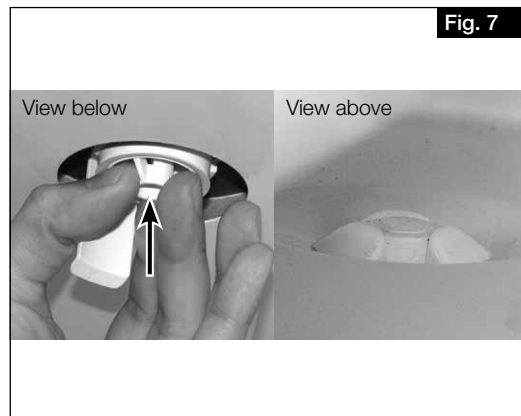

Fig. 7
2. Plug the mounting part in the condensate outlet from below, until the claw fasteners snap to the sheet edge of the base plate (see Fig. 7).